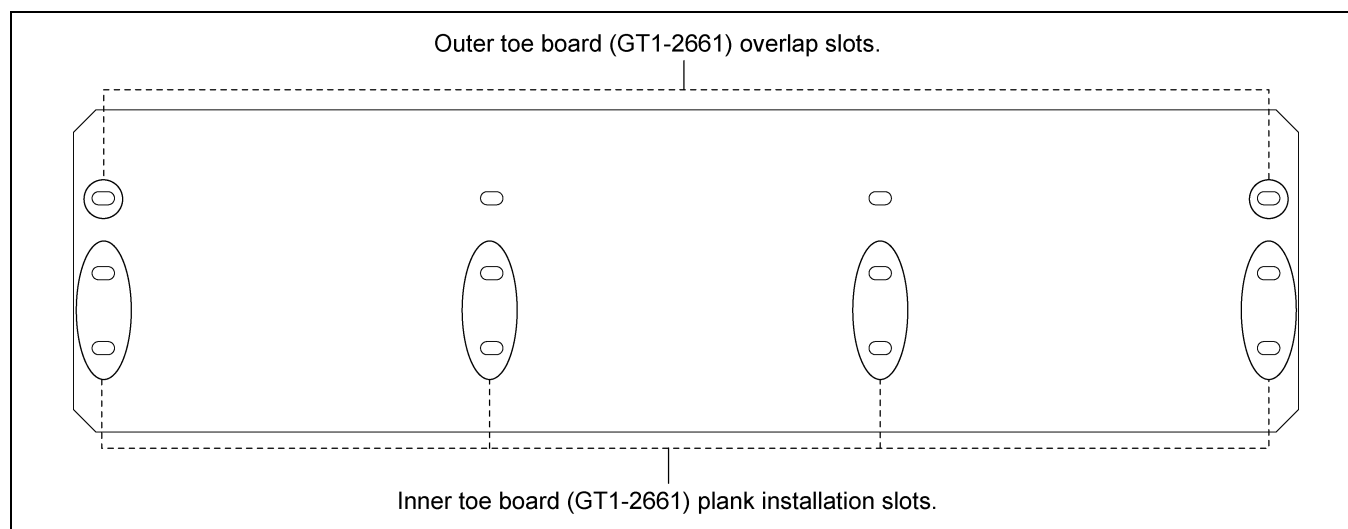

Figure 5K 23'-4" Inner Toe Board (GT1-2661)
3. Inner toe board is arranged with overlap slots on each side and plank installation slots. Install 23'-4" inner toe boards (GT1-2661) to corresponding overlap and plank installation slots as shown in *Figure 5K*